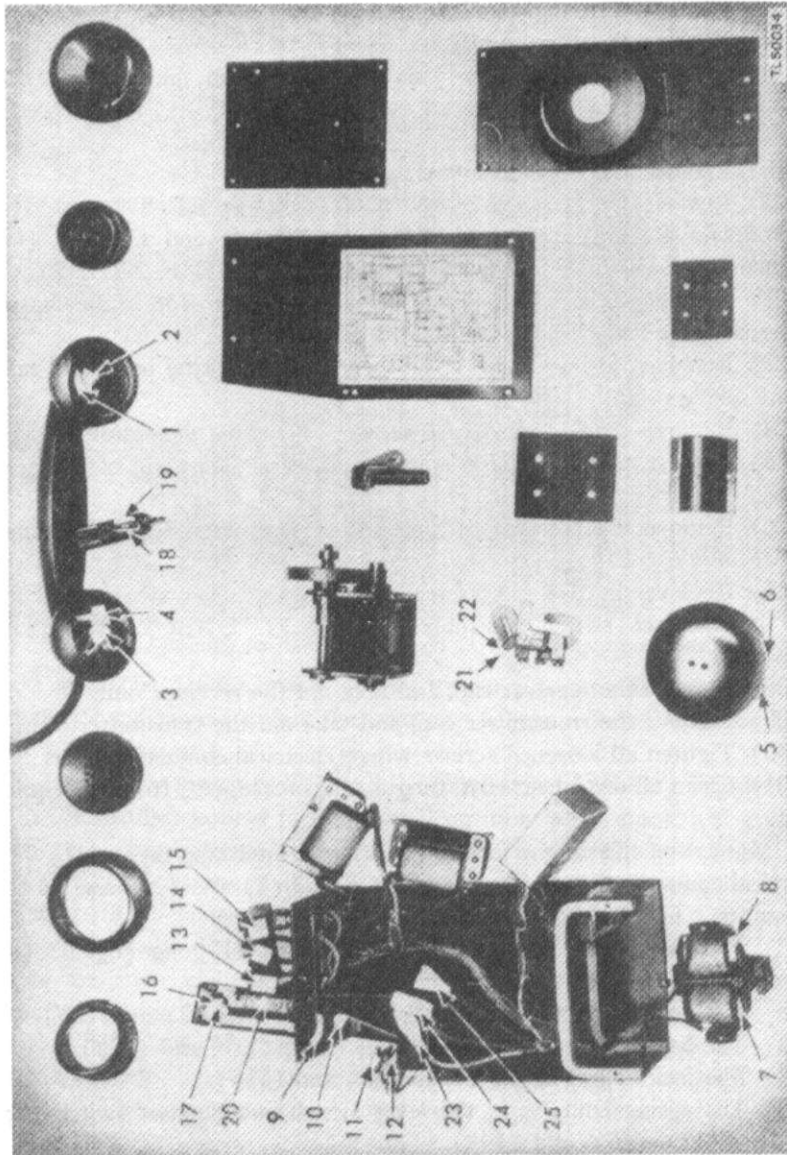

Figure 23. Telephone EE-8-A, disassembled and masked (case and generator magnets not shown).
- (22) Remove the screws holding Coils C-105 and C-158 to the chassis and remove the coils. DO NOT UNSOLDER THE LEADS.
- (23) Remove the two screws from the generator spring pack, and take off the spring pack.
- (24) Remove the four screws from the top of the generator.
- (25) Remove the two lower screws from each side plate of the generator.
- (26) Remove the bottom field plate and the magnets. (*Generator GN-38 only*).
- (27) Remove the two screws from the handset lever switch, and lift out the handset switch assembly. DO NOT UNSOLDER THE LEADS.
- (28) Remove the receiver cap, and take out the receiver unit.
- (29) Remove the transmitter cap, and take out the transmitter unit.
- (30) Tighten all loosened screws where electrical contact is made.
- (31) Clean all dirt, dust, rust, fungus, oil, grease, etc., from the equipment.
c. MASKING. Cover the following parts with masking tape. (1) The electrical contact points on the receiver (fig. 23 (1) and (2)) and on the transmitter (fig. 23 (3) and (4)).
- (2) The two points where the clapper strikes the gong (fig. 23 (5) and (6)).
- (3) The core contacts on the ringer coils (fig. 23 (7) and (8)).
- (4) The battery contacts (fig. 23 (9), (10), (11), and (12)).
- (5) The jack holes (fig. 23 (13), (14), and (15)).
- (6) The spring contacts of the lever switch and handset switch (fig. 23 (16), (17), (18), and (19)).
- (7) The opening below the screw switch (fig. 23 (20)).
- (8) The contact points on the generator spring pack (fig. 23 (21) and (22)).
- (9) The spade terminals of the three leads to the generator (fig. 23 (23), (24), and (25)).